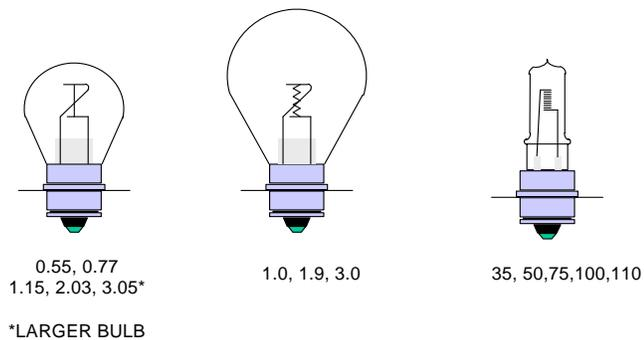

Figure 4-6
- g. Lamps for minor aids to navigation (Figure 4-6) are divided into two categories: tungsten using C-8 and CC-8 filaments, and tungsten-halogen. Tungsten filament lamps are rated by **amperage** and tungsten-halogen lamps are rated by **wattage**. The available lamp sizes are 0.55a, 0.77a, 1.0a, 1.15a, 1.9a, 2.03a, 3.0a, 3.05a, 35w, 50w, 75w, 100w and 110w. The 1.0, 1.9 and 3.0 amp lamps contain coiled-coil (CC-8) filaments and are not suitable for use in drum lenses (155mm, 250mm and 300mm). Lamps are available from SFLC Baltimore.